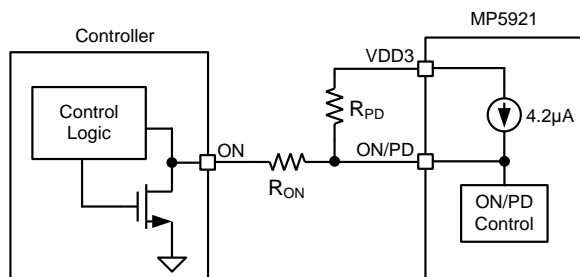

Figure 9: ON/PD Connection for PD Mode
If the MP5921 is controlled by the hot-swap controller, to achieve power FET on/off control and V_{OUT} PD mode control, the ON/PD can be connected as shown in Figure 9. Pull ON/PD up to VDD3 through a resistor divider (R_{PD} and R_{ON}) from the controller. If ON/PD is set to around 1V when the hot-swap controller outputs low to turn off the power FET. R_{PD} can be calculated with Equation (4):